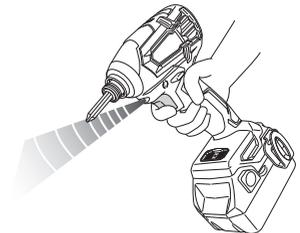

Fig. 12
8. LED light warning signals (Fig. 12)